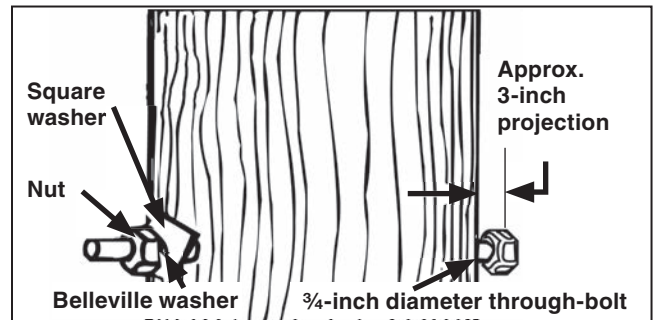

Figure 6. Install the through bolts. Use a square washer against the wood pole and a Belleville washer between the square washer and nut.
**STEP 4.** Insert a  $\frac{3}{4}$ -inch diameter through-bolt (not furnished) into each hole as shown in Figure 6.